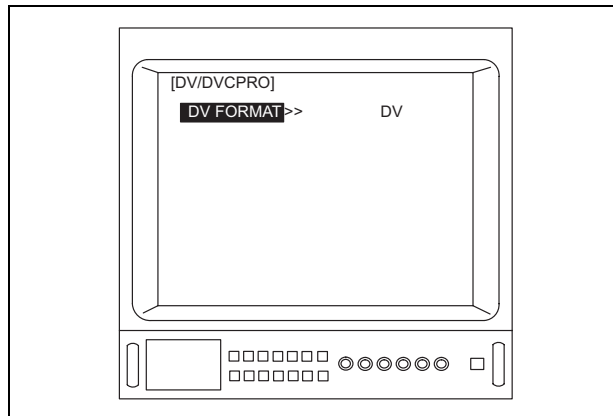

Figure 5.91
6. Depress the menu switch "↵" or the "Enter" key on the keyboard to adjust "DV FORMAT" (see Figure 5.91).
- Depending upon the OTV-S7V's settings, the menu shown in Figure 5.91 may appear different from that displayed on the video monitor.
- Set to "DV" when using the DSR-20MD/DSR-20MDP (see Figure 5.91).